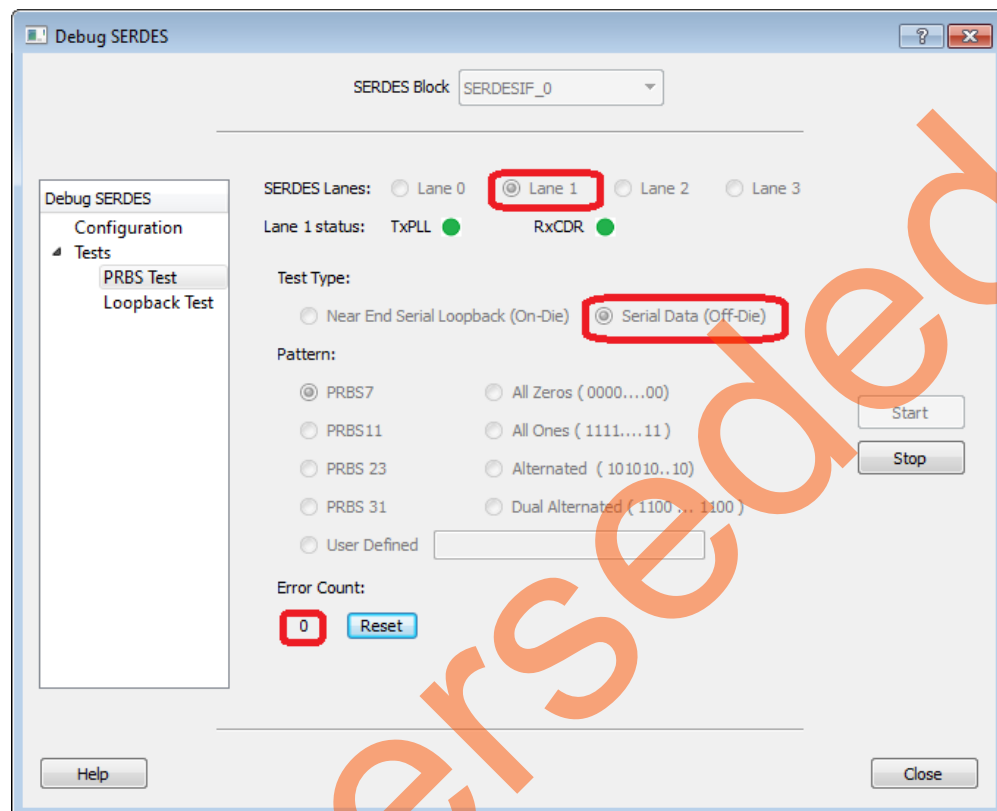

Figure 2-24 • Lane 1 Transmitting Data Through On-Board Loopback
5. The Evaluation Kit board connects Lane 1 on the PCB to loop back Tx and Rx. This loopback demonstrates a complete path with data being transmitted and received intact. The example demonstrates this, select **Lane 1**, select the **Serial Data test type**, and select **PRBS7 Pattern**. This test will generate and check PRBS7 data going off-chip and folded back on the PCB to the receiver, refer to Figure 2-24.